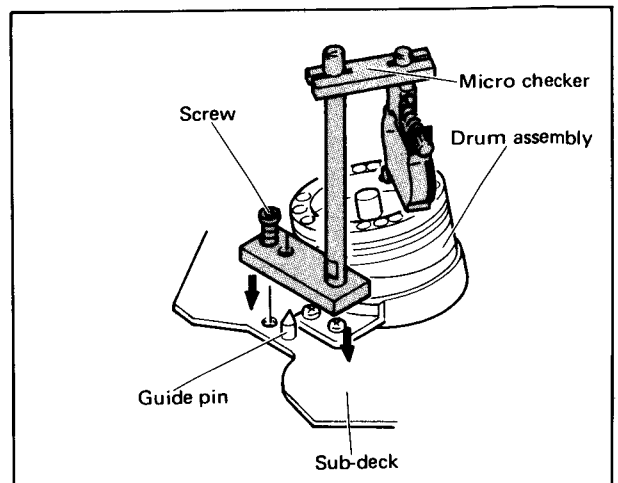

Fig. 4-35
2. Set the micro-checker (PUJ49712-2) on the guide pin as shown in Fig. 4-35. Use the accessory hex wrench (metric) to tighten the fixing screw.